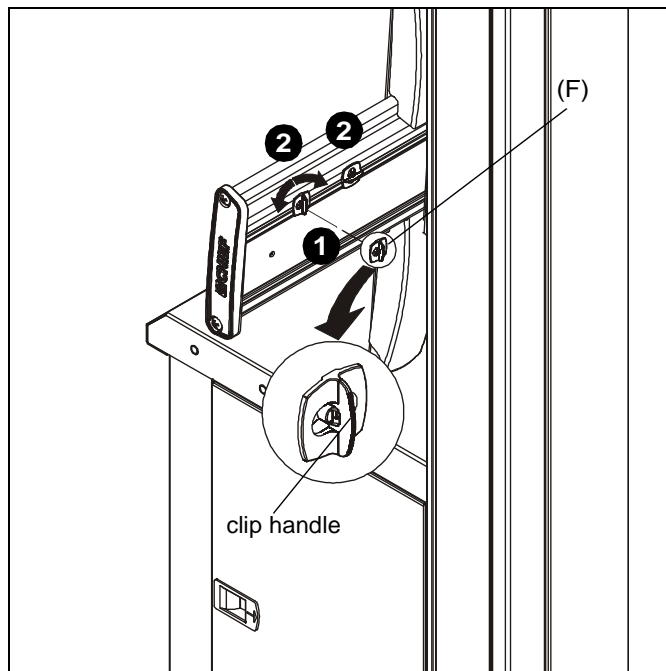

Figure 11
1. Place FCA clip (F) into groove on back of Fusion mount with clip handle in a vertical position. (See Figure 11)
2. Rotate FCA clip (F) 90° in either direction until clip handle is in a horizontal position. (See Figure 11)